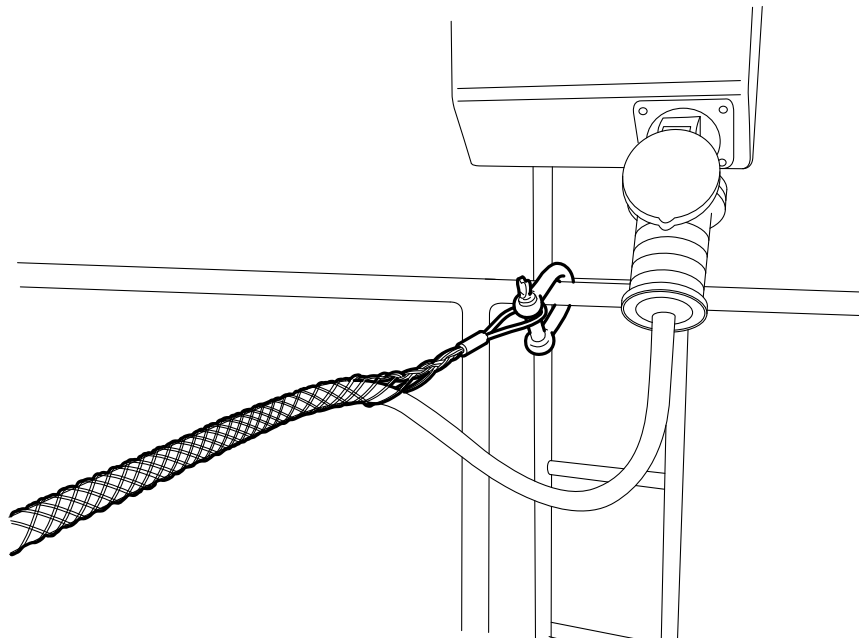

Figure 4-9 Cable and strain relief device
2. Plug the cable into an electrical socket, see Figure 4-9 on page 34.
3. Secure the strain relief device in a suitable position in order to take the strain off the cable, see Figure 4-9 on page 34.